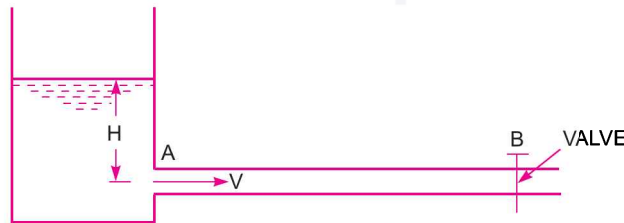

Fig. 11.32 Water hammer.
Consider a long pipe AB as shown in Fig. 11.32 connected at one end to a tank containing water at a height of  $H$  from the centre of the pipe. At the other end of the pipe, a valve to regulate the flow of water is provided. When the valve is completely open, the water is flowing with a velocity,  $V$  in the pipe. If now the valve is suddenly closed, the momentum of the flowing water will be destroyed and consequently a wave of high pressure will be set up. This wave of high pressure will be transmitted along the pipe with a velocity equal to the velocity of sound wave and may create noise called knocking. Also this wave of high pressure has the effect of hammering action on the walls of the pipe and hence it is also known as water hammer.
**11.13.1 Gradual Closure of Valve.** Let the water is flowing through the pipe  $AB$  shown in Fig. 11.32, and the valve provided at the end of the pipe is closed gradually.
Consider a pipe  $AB$  in which water is flowing as shown in Fig. 11.32. Let the pipe is rigid and valve fitted at the end  $B$  is closed suddenly.
**11.13.3 Sudden Closure of Valve and Pipe is Elastic.** Consider the pipe  $AB$  in which water is flowing as shown in Fig. 11.32. Let the thickness ' $t$ ' of the pipe wall is small compared to the diameter  $D$  of the pipe and also let the pipe is elastic.